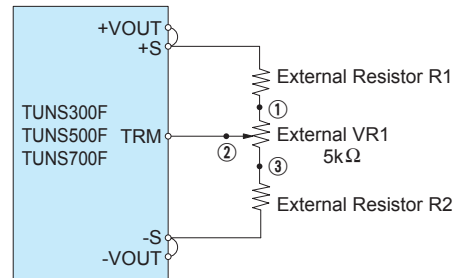

Fig. 3.6 Connecting External Devices (TUNS300F/TUNS500F/TUNS700F)
■Output voltage can be adjusted by connecting an external potentiometer (VR1) and resistors (R1 and R2) as shown in Fig. 3.6.